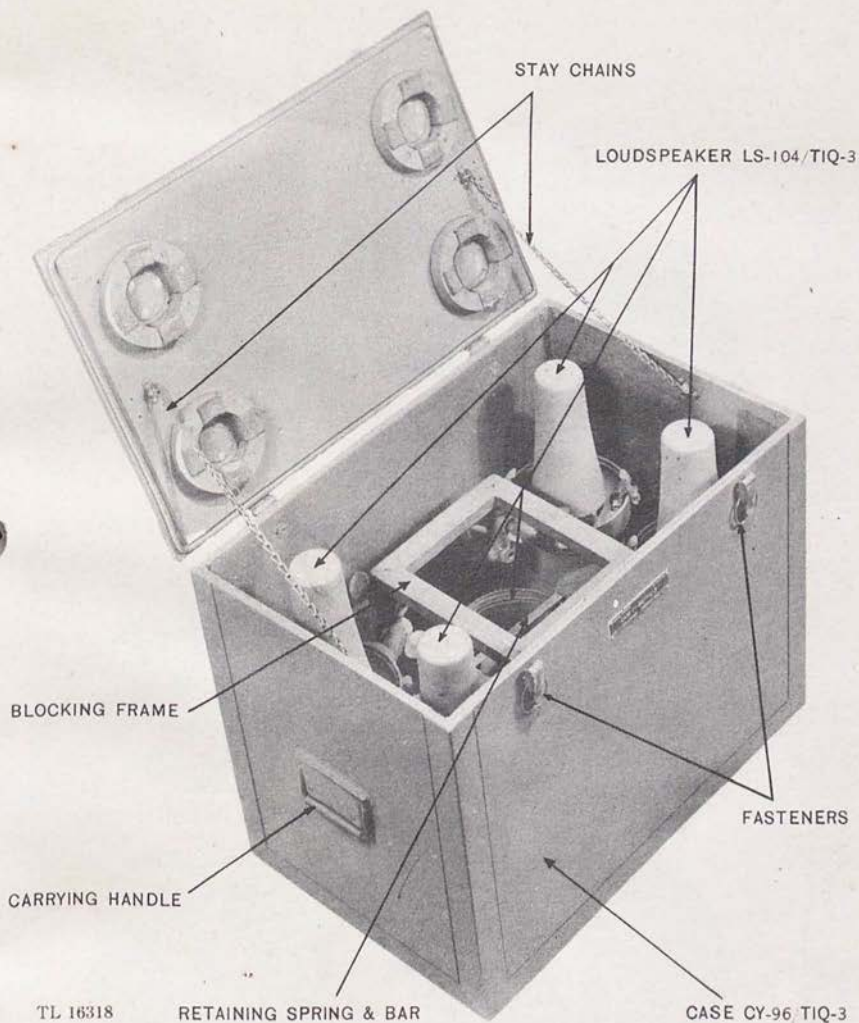

Figure 6. Case CY-96/TIQ-3 and Loudspeakers LS-104/TIQ-3.
d. Loudspeaker Case CY-96/TIQ-3 (fig. 6). There are three cases of this type used with Public Address Set AN/TIQ-3, each containing four Loudspeakers LS-104/TIQ-3. The case is constructed of plywood, heavily reinforced with a steel frame and corners. A hinged lid secured by catch fasteners covers the case. A stay chain on each side of the lid protects the hinges. A folding casket-type handle is attached to each side of the case for carrying. The case contains four compartments
e. Open the lid of the three cases marked Case CY-96/TIQ-3 and remove the four Loudspeakers LS-104/TIQ-3 from each case (fig. 6). The four speaker horns are nested together and held down by a spring and crossbar which can readily be lifted to release the horns. Remove the horns from the case and separate them. Next remove the four loudspeaker driver units which are housed in four wooden compartments fastened to the bottom of the case.